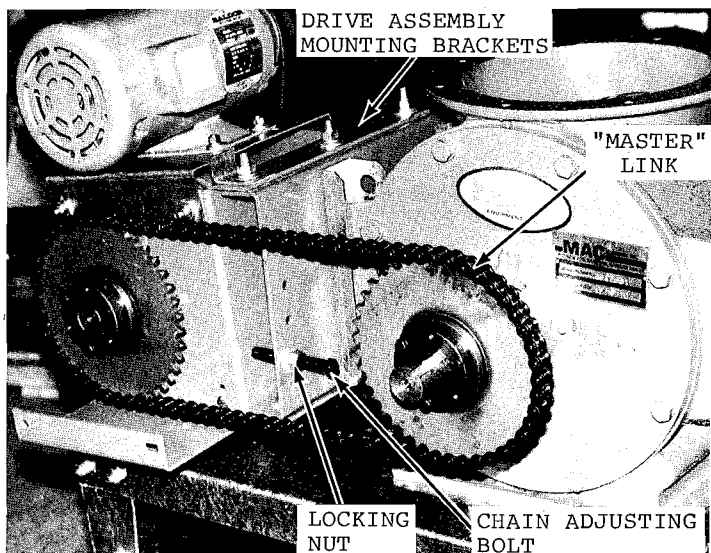

FIG. 22 - AIRLOCK CHAIN DRIVE ARRANGEMENT
6. Airlock Chain Drive (Fig. 22) - Visually check for wear, "stretching", and looseness (also check alignment of sprockets).